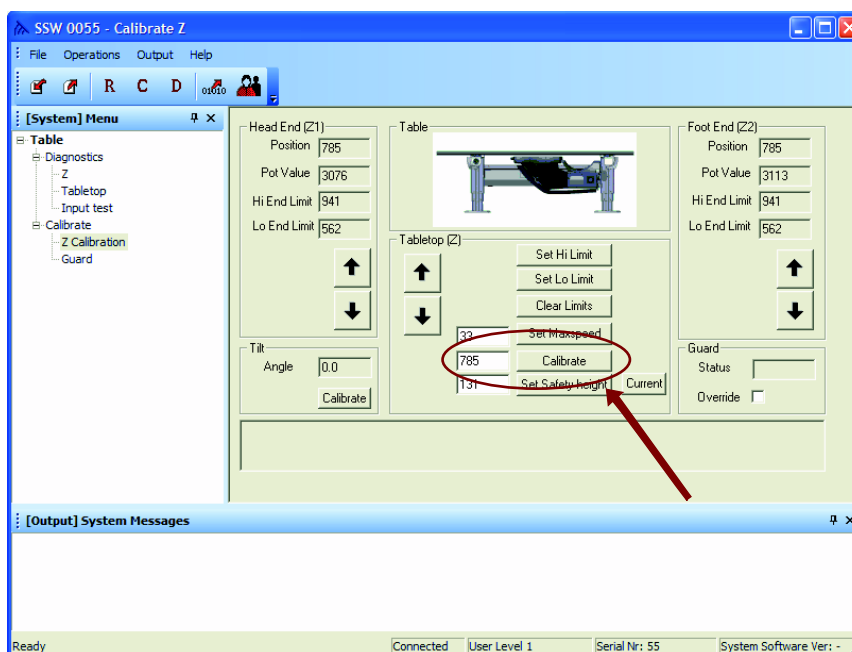

Fig. 4-160 Calibration Table height
6. Enter the distance (in mm) in Edit box beside the Calibrate button of the table top (Z), see **Fig. 4-160**.
8. Press the reset (R) button.